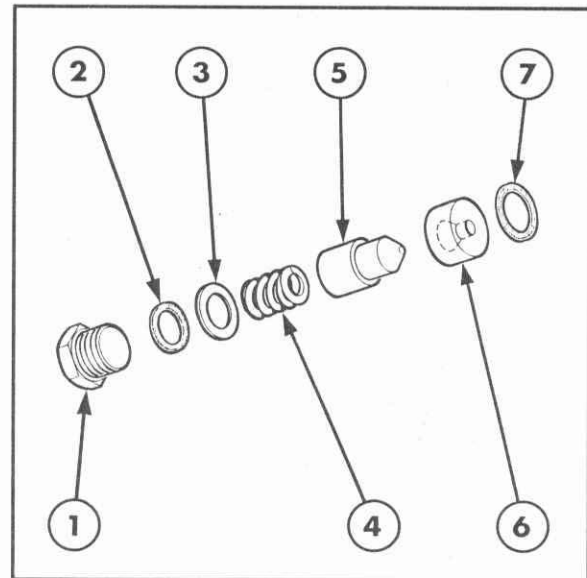

Figure 7-14
4. Use the soft jaws of a vise to grip the seat of the pump pressure relief valve. Unscrew the head and body and check the components for wear or swarf contamination, Figure 7-14.